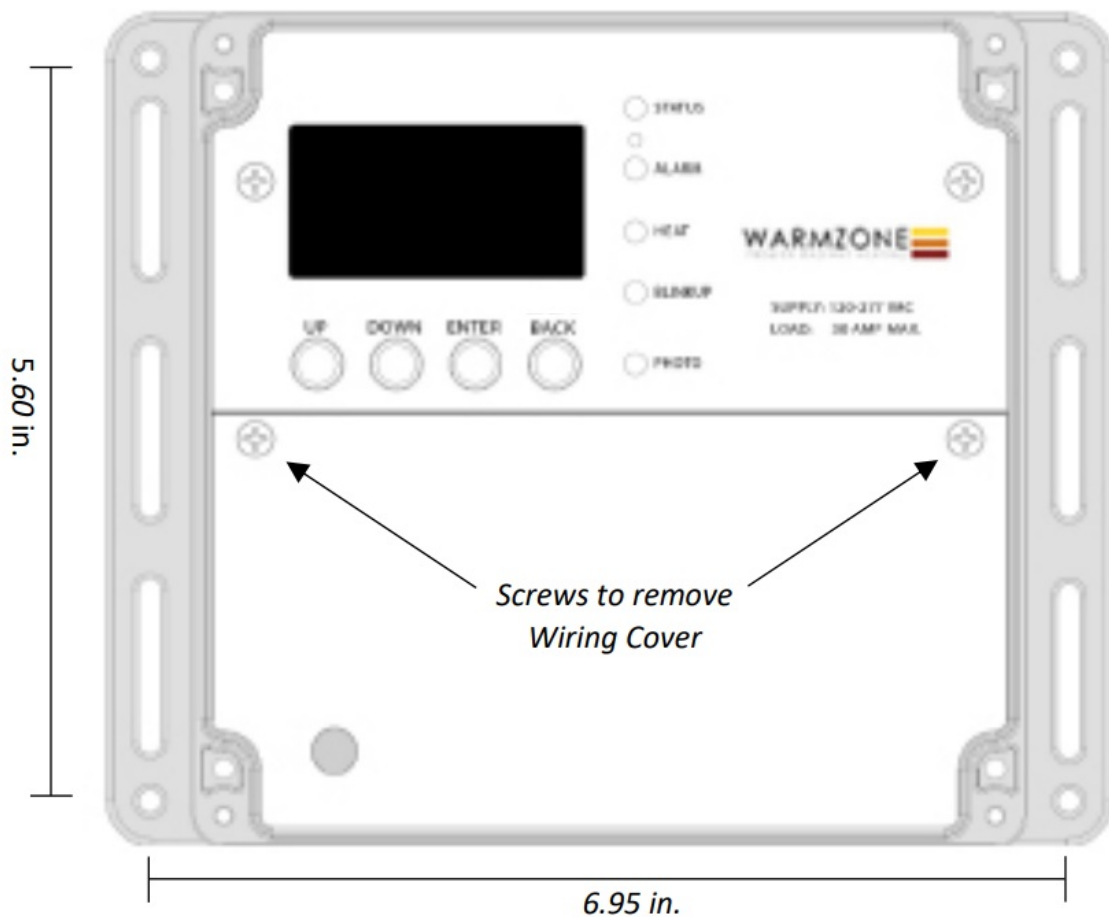

Figure 2: Top View of the Frio S1 controller showing mounting hole dimensions.
3. Mark hole locations on the vertical surface where you will mount the controller according to the dimensions shown in Figure 2. Ensure the mounting surface is flat, and permanent, and the controller is protected from damage.